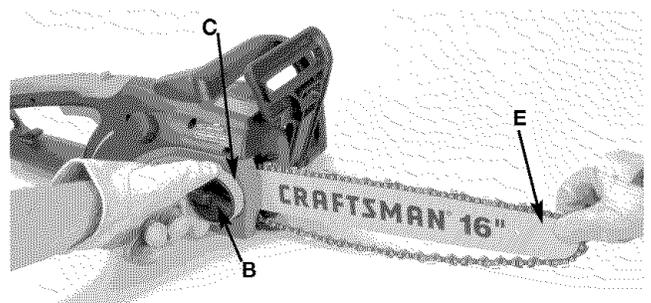

Fig. 21
3. For final adjustment, hold the tip of the bar (E) up and tighten chain tension ring (C). Then tighten the knob (B) (Fig. 21).